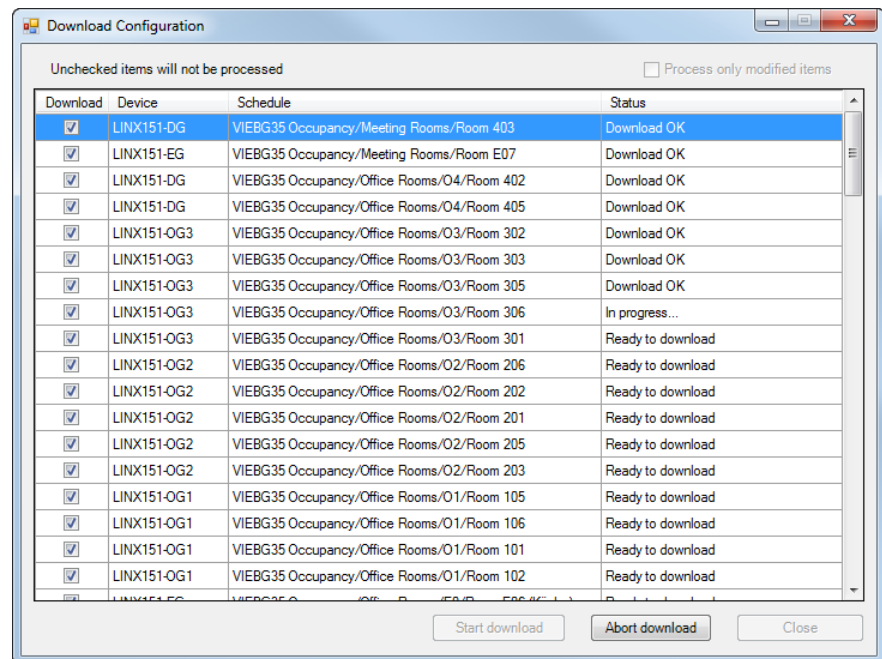

Figure 139: Master Schedule Download
- The download dialog is shown in Figure 139. If the checkbox **Process only modified items** is selected, only the schedulers which have been modified since the last download will be downloaded. This is useful to speed up the download if you have a large number of schedulers. If this checkbox is not active, all schedulers displayed in the list below will be downloaded. This is useful to override any potential changes of the schedulers on the devices.